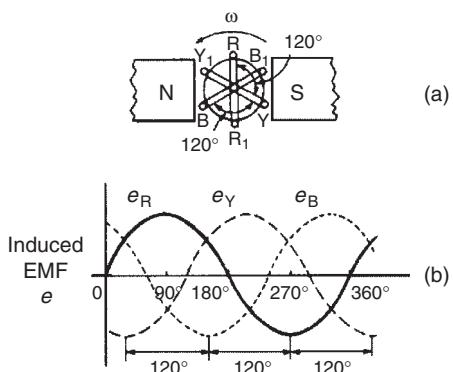

Figure 20.2
A **three-phase supply** is generated when three coils are placed  $120^\circ$  apart and the whole rotated in a uniform magnetic field as shown in Fig. 20.2(a). The result is three independent supplies of equal voltages which are each displaced by  $120^\circ$  from each other as shown in Fig. 20.2(b).
- (i) The convention adopted to identify each of the phase voltages is: R-red, Y-yellow, and B-blue, as shown in Fig. 20.2
If the three-phase windings shown in Fig. 20.2 are kept independent then six wires are needed to connect a supply source (such as a generator) to a load (such as motor). To reduce the number of wires it is usual to interconnect the three phases. There are two ways in which this can be done, these being: